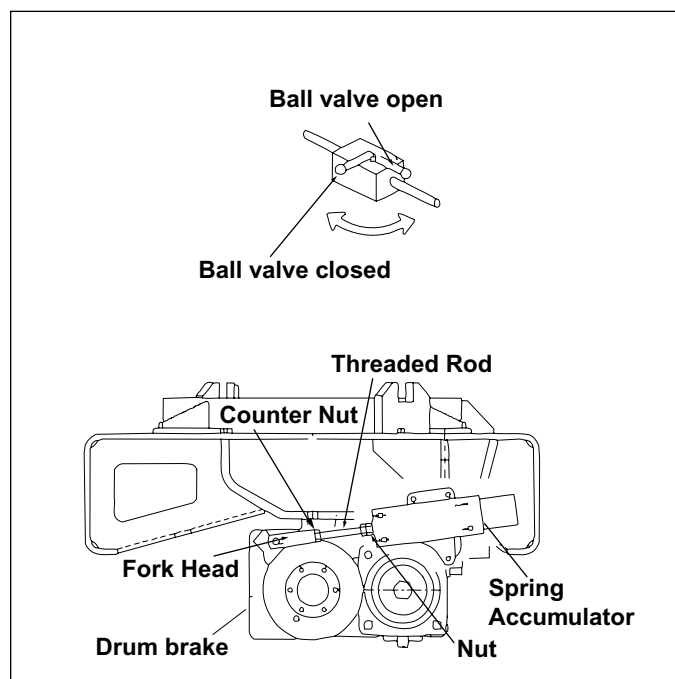

Figure 3-25. Preparing the Brake for Towing
4. See Figure 3-25. Loosen the locking nut and nut, then turn the threaded rod until the brake remains open.